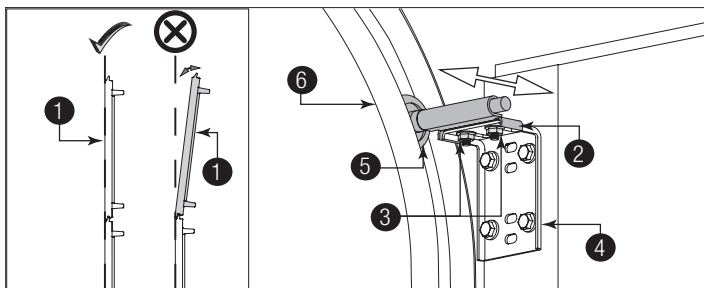

Figure 35, Left Side Shown
**See Figure 35 for the following steps.**